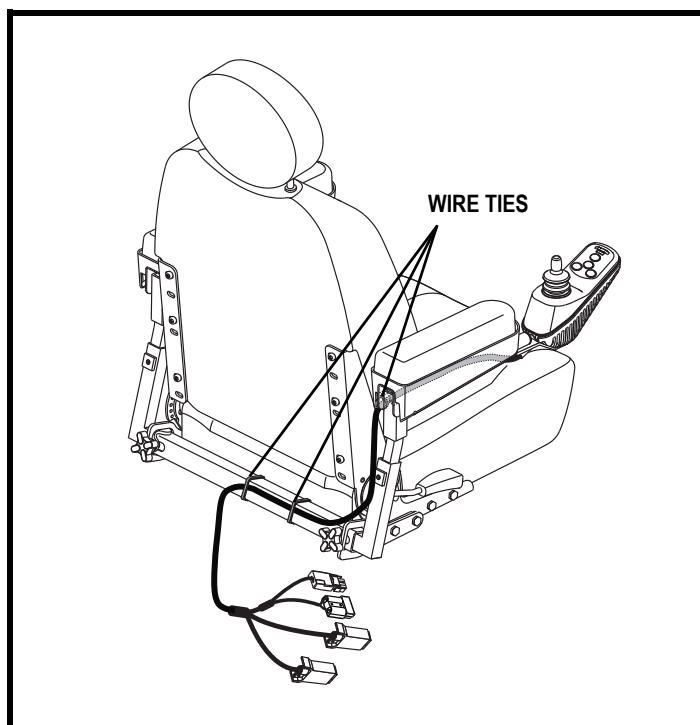

Figure 13. Controller Harness Routing
11. Secure the controller harness to the armrest receiver with wire ties. **See figure 13.**